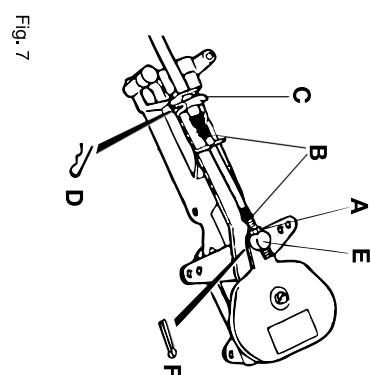

Fig. 7
- Remove the nut (A fig. 7) and both rubber seals (B fig. 7) from the cable.
- Push the cable through the bracket (C fig. 7)
- Secure the cable with the locking pin (D fig. 7)